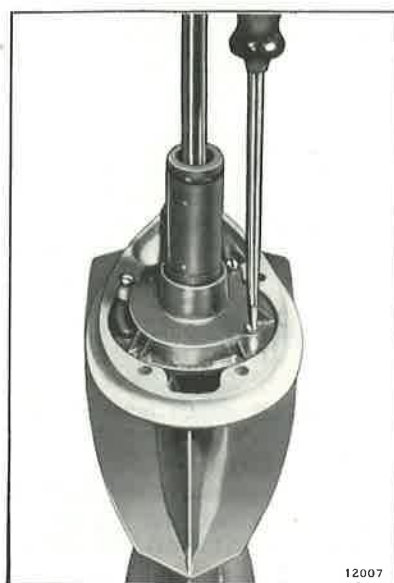

Figure 6-12. Removing Water Pump Screws
- b. Remove three screws attaching water pump to gearcase. Lift water pump and driveshaft from gearcase. See Figures 6-12 and 6-13.